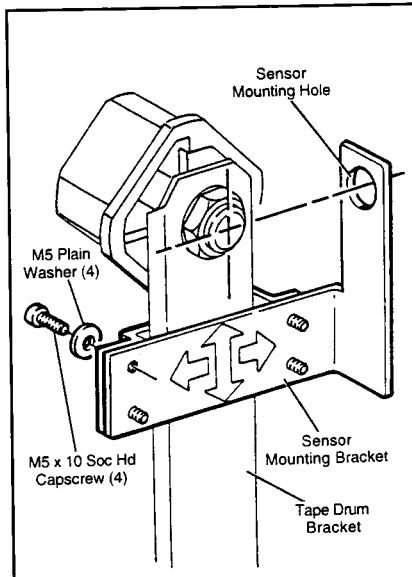

Figure 19
- Attach sensor mounting bracket to tape drum bracket as shown in Figure 19. Mounting bracket clamp should be centered on tape drum bracket and sensor mounting hole centered on tape drum.